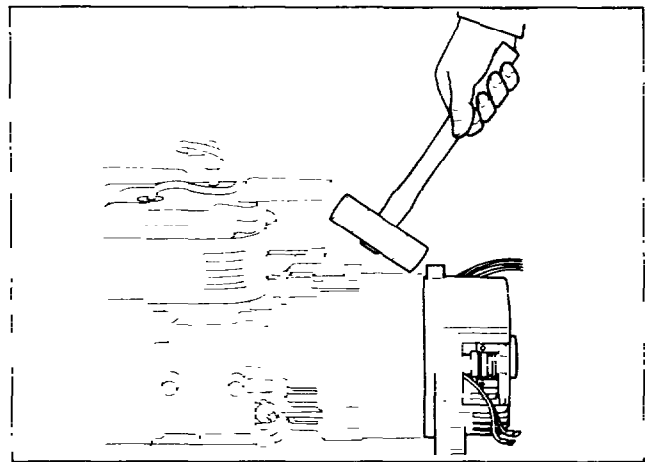

Fig. 10-11
(2) Remove the stator cover. Turn up the stator cover edge and remove the stator cover.		(-) screwdriver
(3) Remove the rear cover. (See Fig. 10-11.) Lightly tap the rear cover with a plastic hammer, and remove it.	The type that uses a connector does not permit complete separation of the stator and rear cover because the connector cannot be pulled out of the rear cover or grommet. In this case, simply remove the rear cover from the bearing.